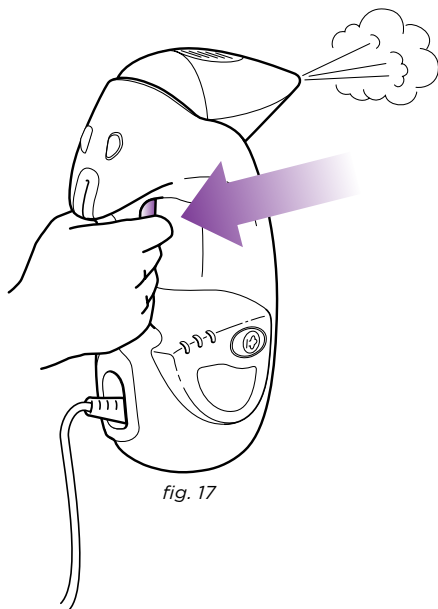

fig. 17
- Then press and hold the steam trigger button to start steaming. While the steam trigger button is pressed and held down, the **ON/STANDBY** button light will be solid blue. When released, the **ON/STANDBY** button light will return to flashing blue. (fig. 17)